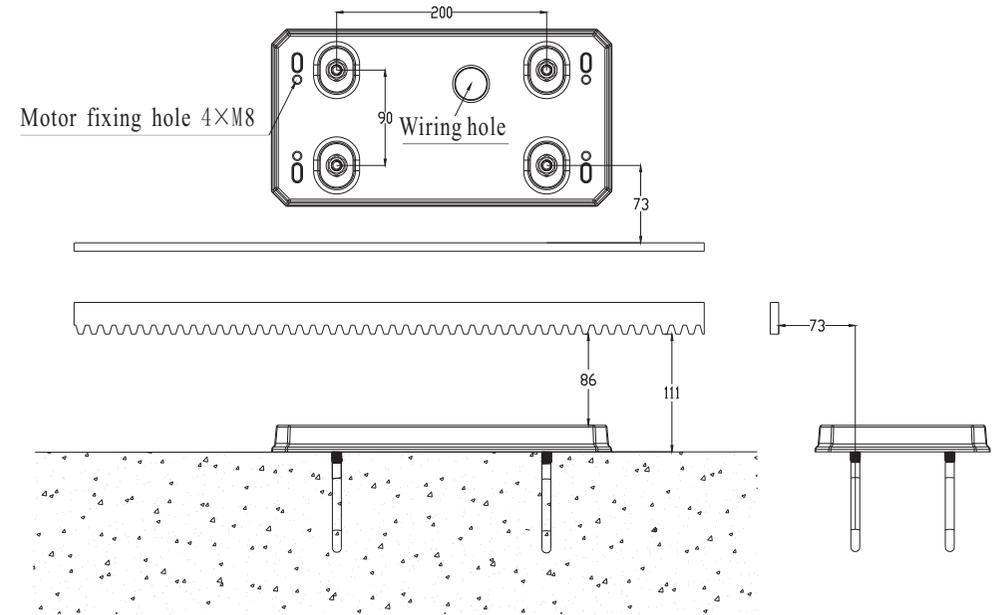

Fig. 2
#### 5.1 Motor base and it's installation (Fig. 2)
1. Motor base installation: set the installation position of the base tray according to the size of the motor and the height of the installation position of the gear rack. Then Embed the bolts in advanced or use the expansion bolts to embed the base into the cement foundation (Fig. 2)